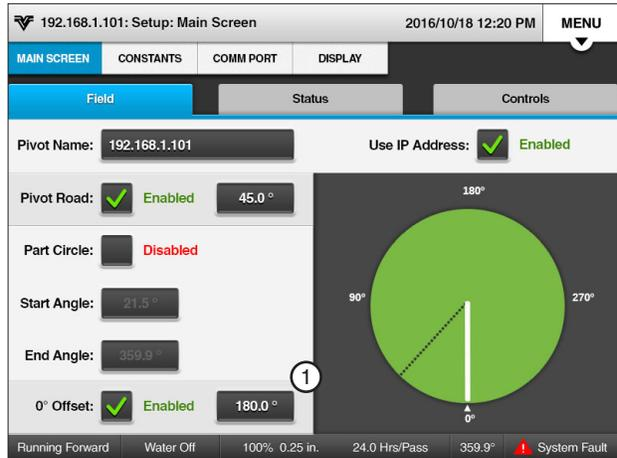

Figure 12-1 1. 0 Degree Offset
1. Push **Menu**, **Setup**, **Main Screen** and **Field** to display the Field screen. Refer to Figure 12-1.